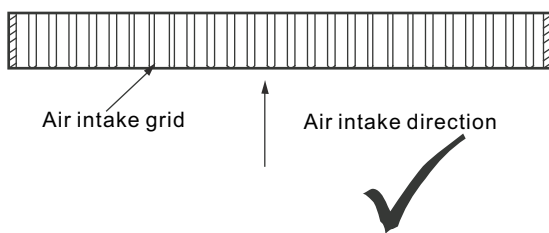

Figure 3.11
1) Pay attention to maintain the parallelism between the air grid angle and the air intake direction when you make the air intake panel of the air return box. Refer to Figure 3.11.